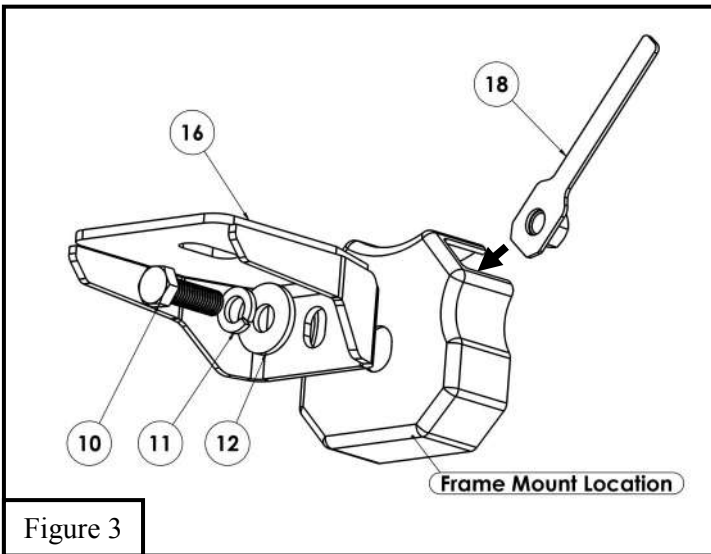

Figure 3
4. On driver side of the truck underneath the bed, locate a part of the frame that protrudes outward and has a large slot on its face. This is where you slide the M12 Nut Plate (item 18) and loosely install the Top Isolator Bracket (Item 16) with the supplied M12 hardware. See **Figure 3**